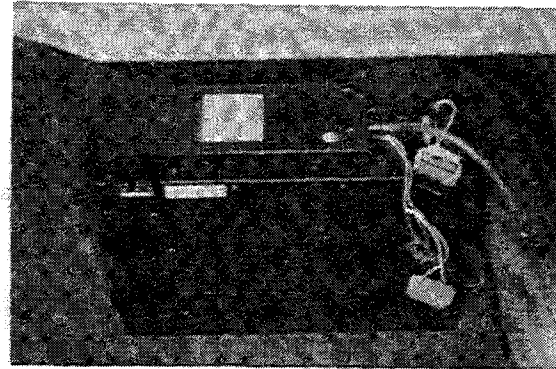

Figure 3
5. Attach interface box to rear of CD changer unit using three M2x5 bolts (Models 124 only) (Fig. 3).